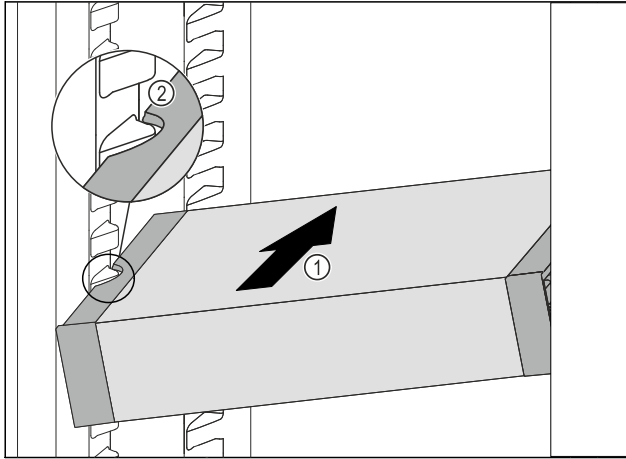

Fig. 69
- ▶ Insert the VarioSafe into the fridge section at an angle Fig. 69 (1) until the recesses in the side Fig. 69 (2) of the VarioSafe are at the level of the support rib in the fridge section.